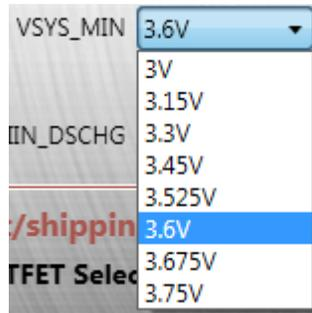

Figure 15: Setting the V_{sys_min} Threshold
- The default value is 3.6V (see Figure 15 on page 9).